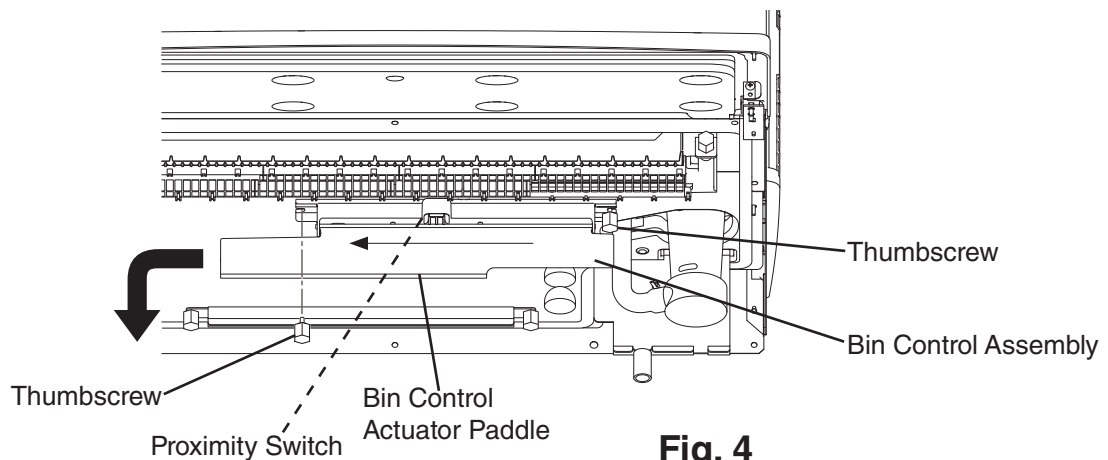

Fig. 4
- 5) Remove one of the bin control thumbscrews, then loosen the other bin control thumbscrew and then slide the bin control assembly over. Next, rotate the bin control assembly to the front to view the proximity switch. See Fig. 4.